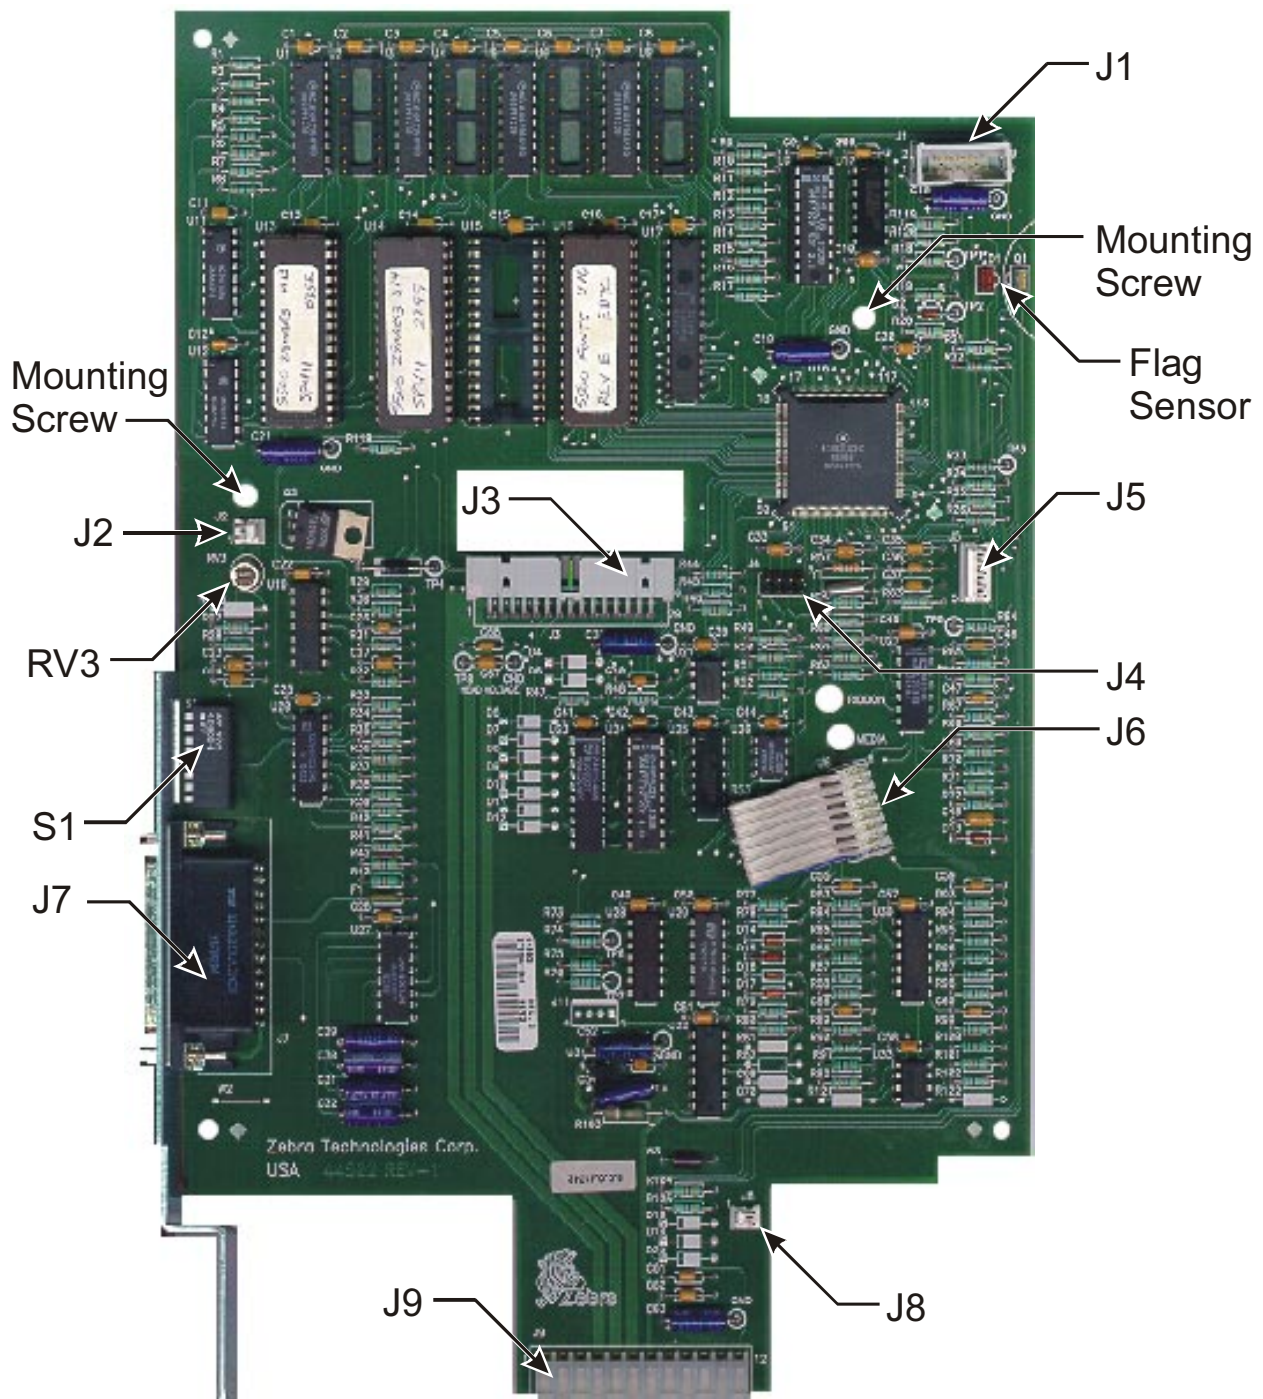

Figure 4.
12. Disconnect the main logic board's ribbon cable connector (J6) from the contact pins of the sensor circuit board (see Figure 4).
17. Note the positions of all ribbon cable connectors and wire harness connectors. Remove all connectors to the main logic board (see Figure 4).
18. Remove the two 5mm hex screws securing the main logic board to the printer main frame (see Figure 4).